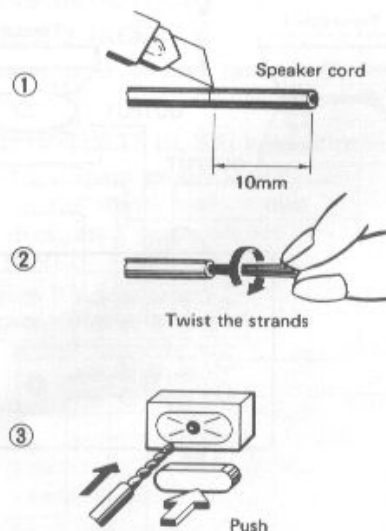

Fig. 2
Processing and connecting the speaker cords (Fig. 2)
1. Cut off the covering of the speaker cords as shown in Fig. 2-①.